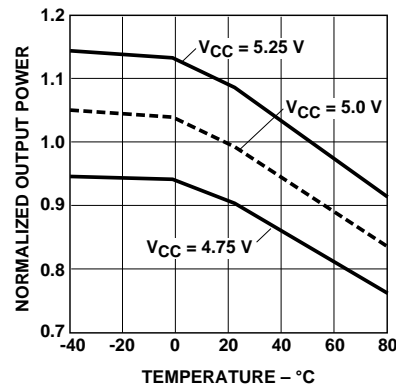

Figure 4. Typical Normalized Optical Power vs. Temperature (in Recommended Drive Circuit).
- Minimum and maximum values for  $P_T$  over temperature are based on a fixed drive current. The recommended drive circuit has temperature compensation which reduces the variation in  $P_T$  over temperature; refer to Figures 4 and 6.